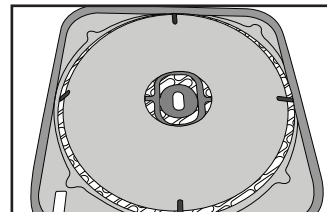

Fig. 4
3. The pre-filter and nano-coil filter will be installed already. To install the VOC/Odor filter (optional), remove the VOC/Odor filter from the plastic bag. Place the VOC filter into the unit flush against the pre-filter, secured by four clips. See Fig. 4